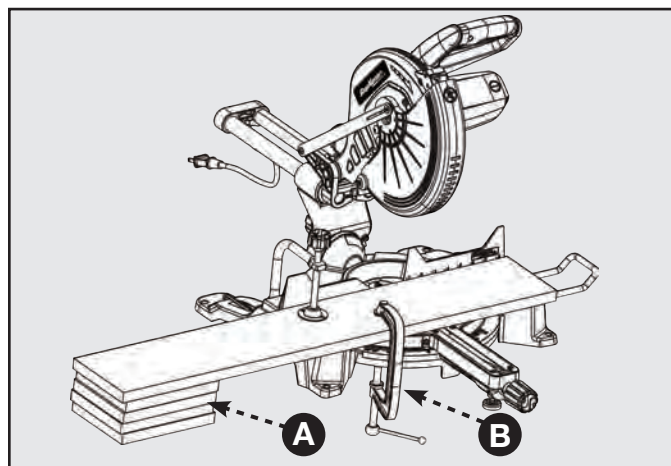

FIGURE 22
In most cases the included table extensions (workpiece supports) will be sufficient to support longer workpieces. If these are not long enough, the workpiece should be supported further out from the saw. Additional support (A) may be used to make the workpiece lay flat on the saw table. Use the included work clamp or a C-clamp (B) to secure the workpiece to the miter saw table. See Figure 22.